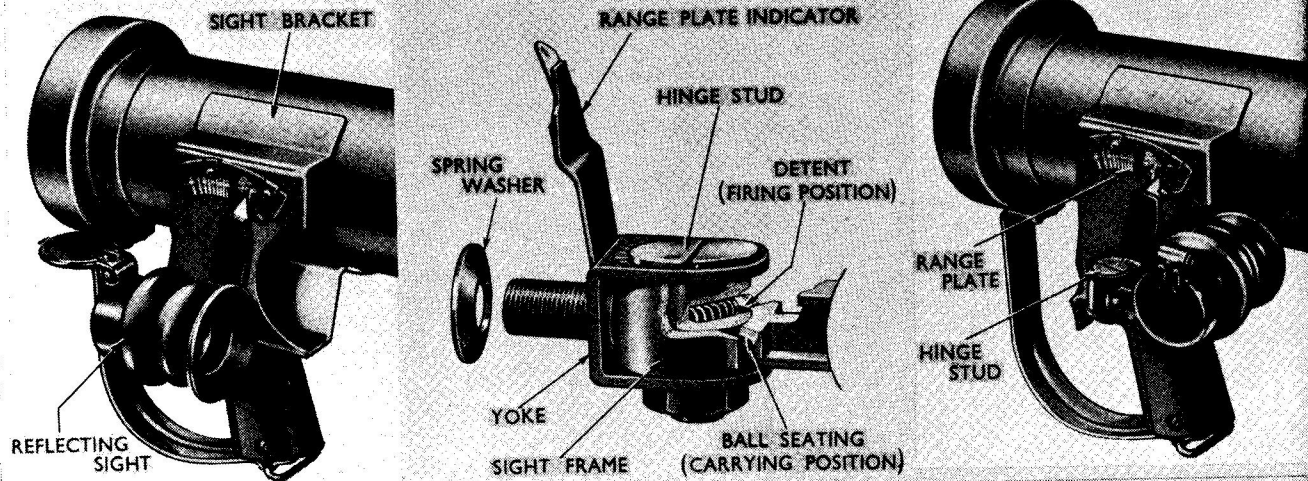

Fig. 5 Sight Bracket and Reflecting Sight
7.0. The sight bracket (Fig.5) is on the left side of the rear barrel part, just in front of the monopod. To the top part of the bracket a range plate is secured by means of two adjusting screws. On the plate is marked a range scale with one setting marked 0 to 450 and other settings indicating every 50 yards from 500 to 900, the hundreds being numbered from 5 to 9. Notches along the scale are engaged by a projection on a pointer to hold the sight setting. Elongated slots in the plate provide a means of adjustment when zeroing sights.
8.0. The reflecting sight (Fig.5) consists of a single lens and a graticule fitted into a housing, the two being separated by a metal spacer.